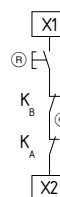

Fig. 3
**External reset button (Fig. 3)**